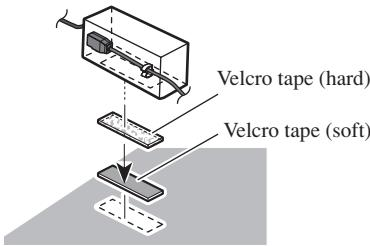

Fig. 9
• When installing the optical cable connection box with the velcro tape. (Fig. 9)